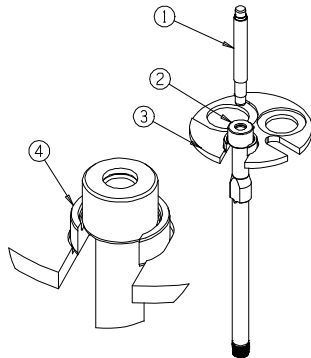

Figure 11-13 Bushing and Stem Disassembly.
- Refer to Figure 11-13. Place the Valve Bushing (2), with the threaded end of the Valve Stem facing down, into the Arbor Press. Use the Punch (1) to press Valve Stem from the Valve Bushing.